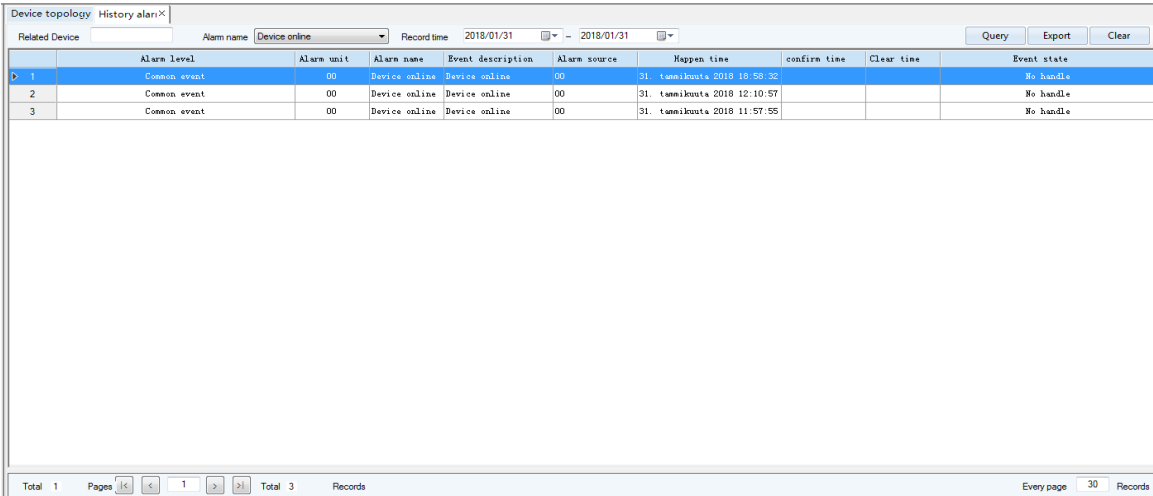

Fig.6.3 History alarm
- (1) Related equipment: Enter the name of the associated device and click query button, then you can see all the alarm information related to query (see Fig.6.3).
- (2) Alarm name: Click the name of the alarm, select an alarm type (as shown in Figure 6.3), and click the Query button to display all the alarm information of the selected alarm name.